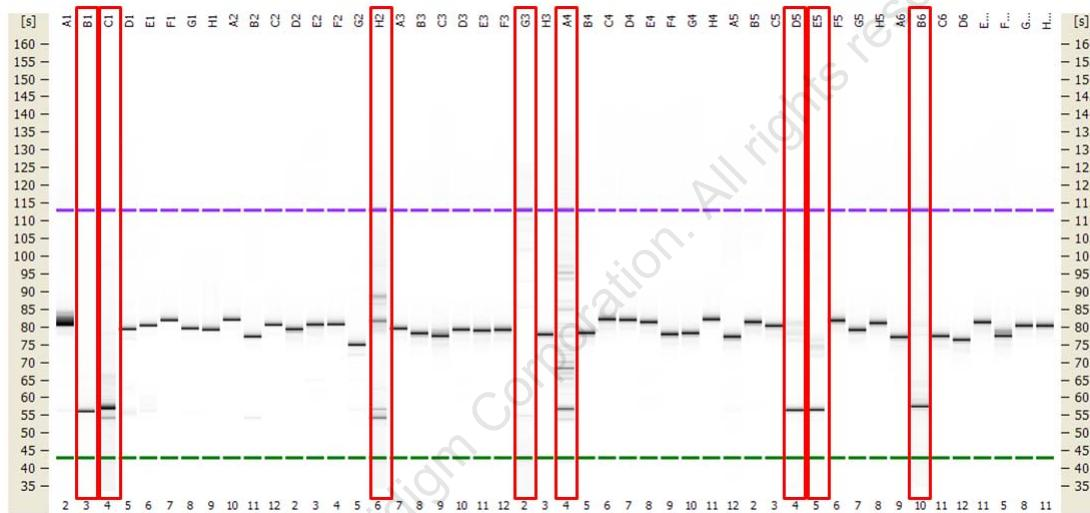

Figure 1 48 primer pairs checked on an Agilent chip
- 4 Figure 1 shows an example of 48 primer pairs checked on an Agilent chip. The red labeled reactions did not generate products with the correct size or generated multiple products in the PCR reactions. Therefore these primers will need to be redesigned following the instructions in Chapter 2 and validated before continuing.